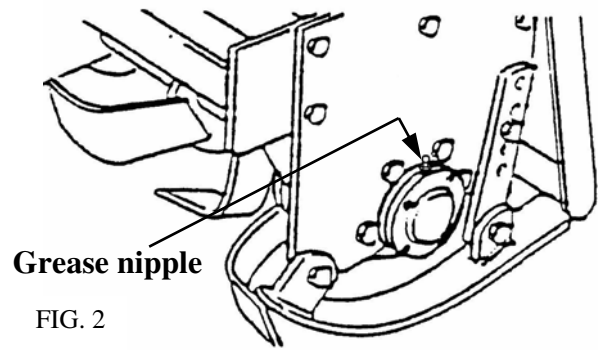

FIG. 2
- Grease the right lateral support of the rotor (see fig. 2) after cleaning correctly the grease nipples for better lubrication. Use lithium type grease NLGI 2 .